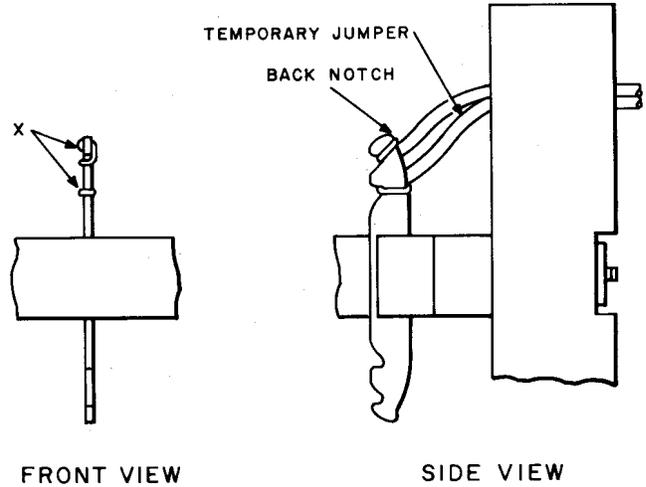

Fig. 16—Temporary Cross-Connections on 183C- or Similar-Type Terminal Strip With Twin Notch Terminals
9.11 On terminal strips having twin or double twin notches, the temporary jumper should be connected to the extra notch. (See Fig. 16 and 17 and paragraph 7.13.)